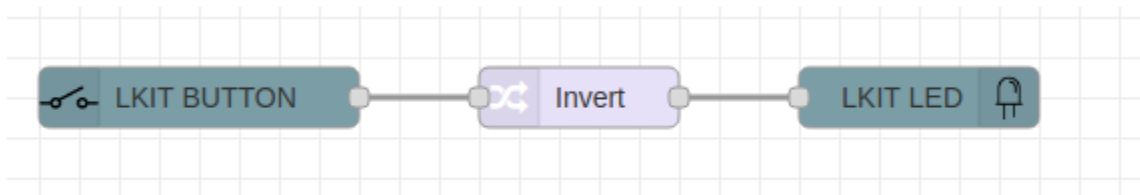

Figure 4-40: Button to LED Flow with Invert Node
- Open a new tab and import your Warning Light flow (Figure 4-40)